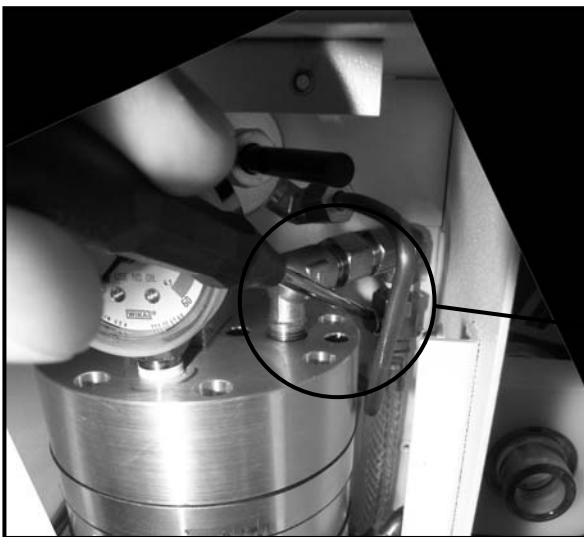

Fig. 3
3. Press quick release lever with flat head screw driver or equivalent to disengage hose and remove. (Figs. 3 & 4) Pull hose through rubber grommet gently so as not to pull the grommet out of position.